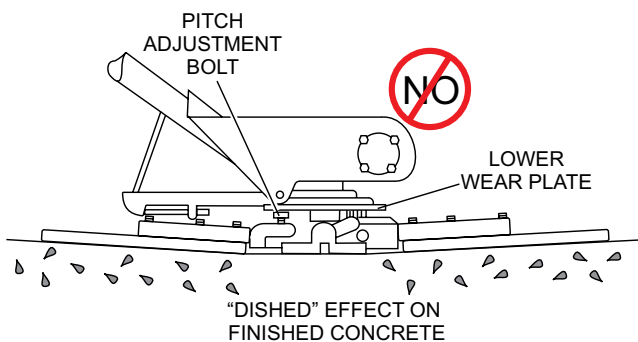

Figure 56. Incorrect Spider Plate Alignment
- Figure 56 illustrates, “incorrect alignment”, worn spider bushings or bent trowel arms.